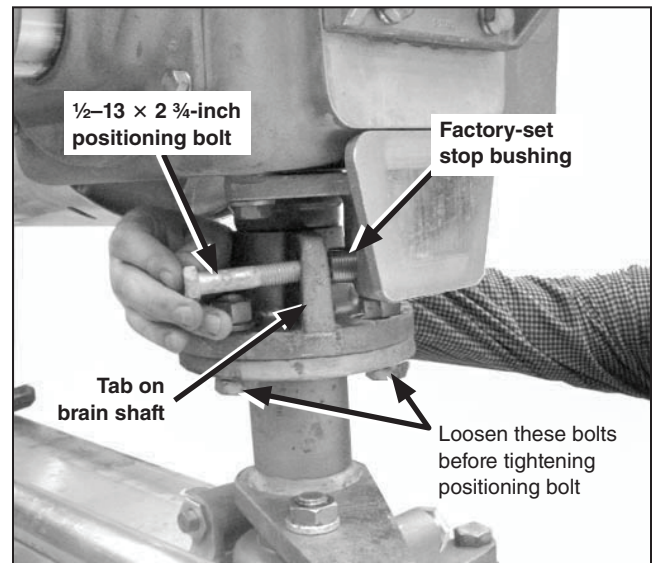

Figure 5. Installing the positioning bolt.
STEP 4. Each circuit-switcher pole-unit brain, with its associated base-integrated power train, is factory-adjusted to provide the sequence control necessary to ensure positive latching of the stored-energy source within the brain and precisely timed opening of the interrupters. To maintain this essential factory-adjusted brain-and-power-train relationship during removal and later reassembly of live parts, a brain adjustment-holding device is provided. See Figure 5.
- (b) At the brain mounting flange, loosen, but do not remove, the cap screws which fasten the brain to the rotating-insulator support. See Figure 5.
- (b) Install the $\frac{1}{2}$ -13 \times 2 $\frac{3}{4}$ -inch positioning bolt, flat washer, and nut in the adjustment-holding device under the brain, as shown in Figure 5 on page 11. Tighten the nut securely so the two mating surfaces are drawn together.